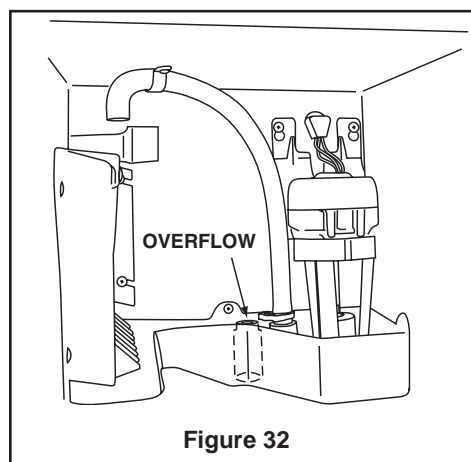

Figure 32
4. Remove the overflow tube by lifting it while using a slight back and forth motion to loosen it from the drain hole. The water in the reservoir will flow down the drain. (See figure 32.)
- 7 Drain water from the water trough and drain line by removing the overflow tube (see Figure 32).